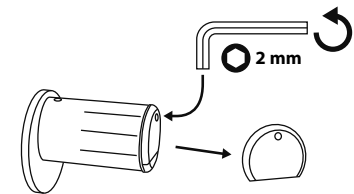

Fig. 118
- 1 On the inside of the door at the front end of the knob, remove the screw with the hexagonal spanner provided and remove the front cover (Fig. 118).